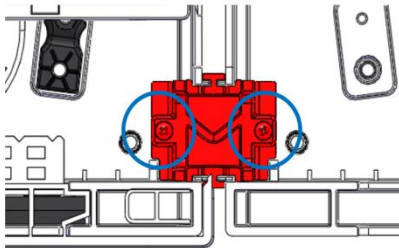

Fig. 11
- M3 x 6 mm long screws for the attachment of a protection sheet to the back of the adapter panel and for attachment of an expansion piece to the base, qty. 8 (Fig.11)
3.3.5. Screw the plastic expansion bracket with two M3X6 mm screws (Fig. 11)